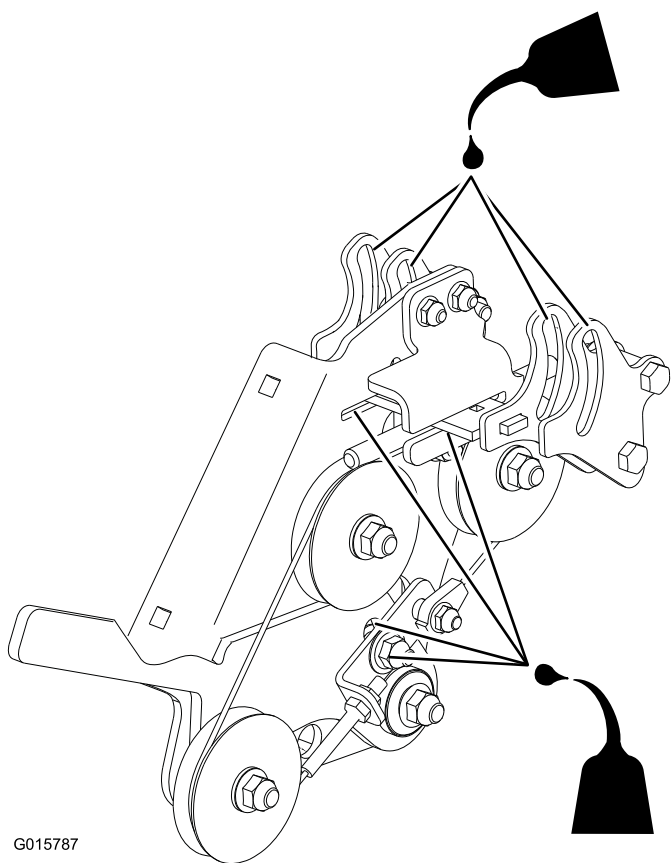

Figure 26
7. Lubricate the speed control with 3-IN-ONE® oil or equivalent. See Figure 26 for the correct locations.